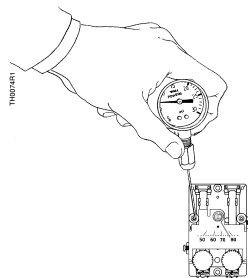

Figure 4. TH192 HC Output Pressure Test Port
The output pressure test port (*Figure 4*) is accessible without removing the thermostat cover through the 8th opening:
- Moisten the needle and insert the test gauge and needle adapter in the test port (Figure 4). Read the control pressure.
Before troubleshooting the thermostat per Table 1, make certain there is clean dry supply air at 18 psi (124 kPa) minimum. Use the test probe gauge and needle adapter to measure the control pressure at the output pressure test port (Figure 4). The output pressure test port is accessible without removing the thermostat cover through the 8th opening from the top as follows: